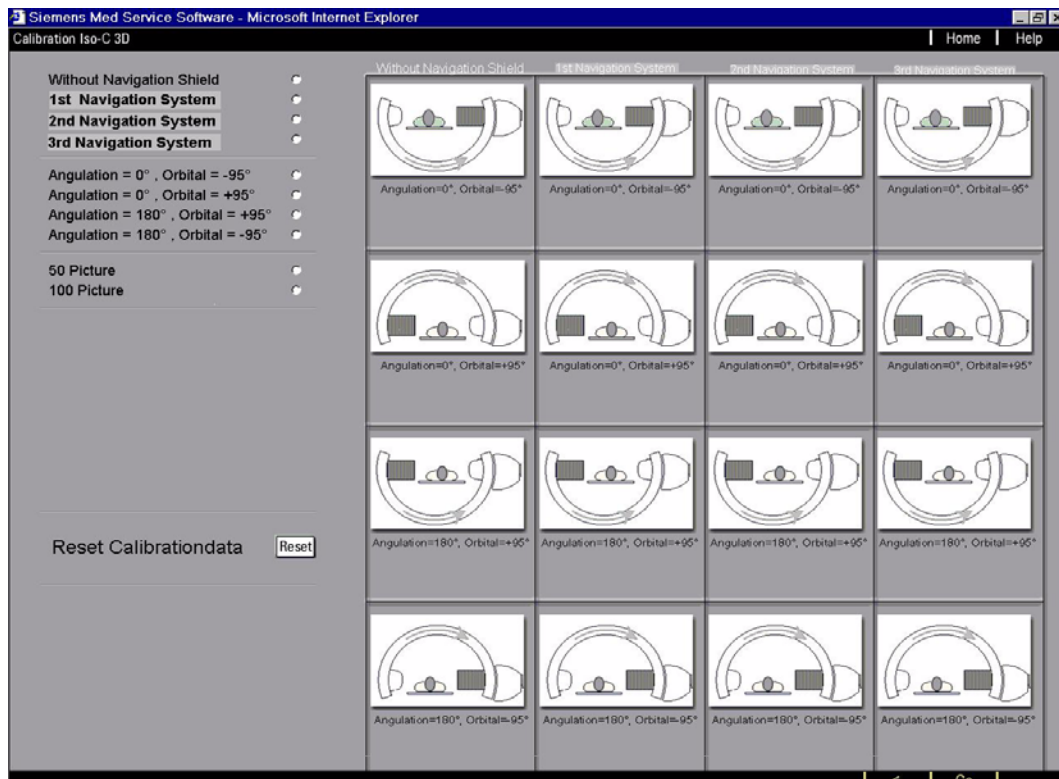

Fig. 13
⇒ The following window appears (example) (Fig. 13).
- Select the navigation system to be calibrated (e. g. 1st Navigation System, see Fig. 13) (see software description setting for network nodes).